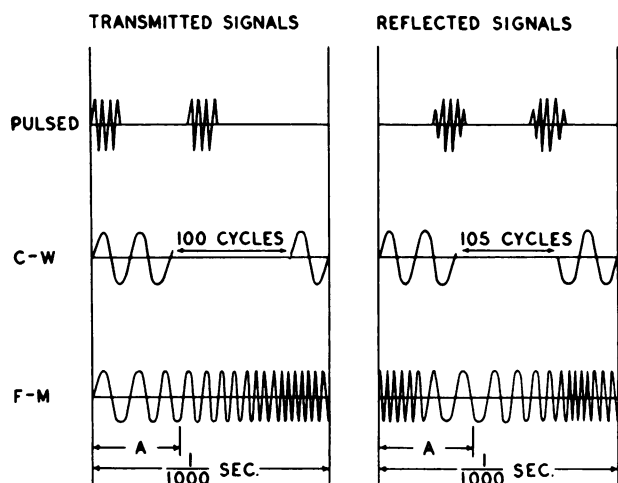

Figure 3A.
The waveforms shown in figure 3A are graphs of the voltage variations during a chosen time interval for equipment like the missile radars discussed in the textbook. The signals are not intended to duplicate those produced by real equipment, but only to demonstrate the principles used in such equipment.
4. What is the pulse repetition frequency of the radar signal shown in figure 3A?
5. The frequency of the reflected CW signal shown in figure 3A differs from the frequency of the transmitted signal. This indicates that the range of the target is changing. What is the size of this frequency difference?
6. The frequency of the reflected FM signal shown in figure 3A is much higher than the transmitted signal during any such interval as A. What does the frequency difference indicate?